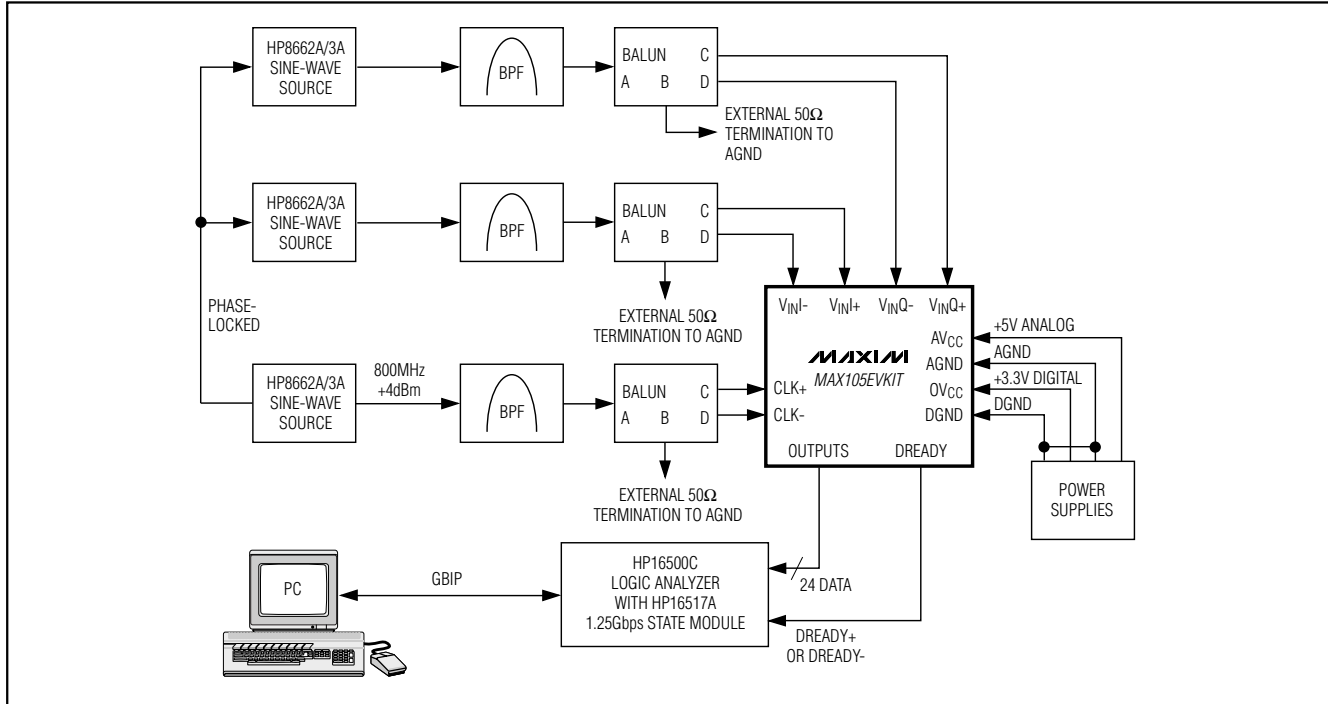
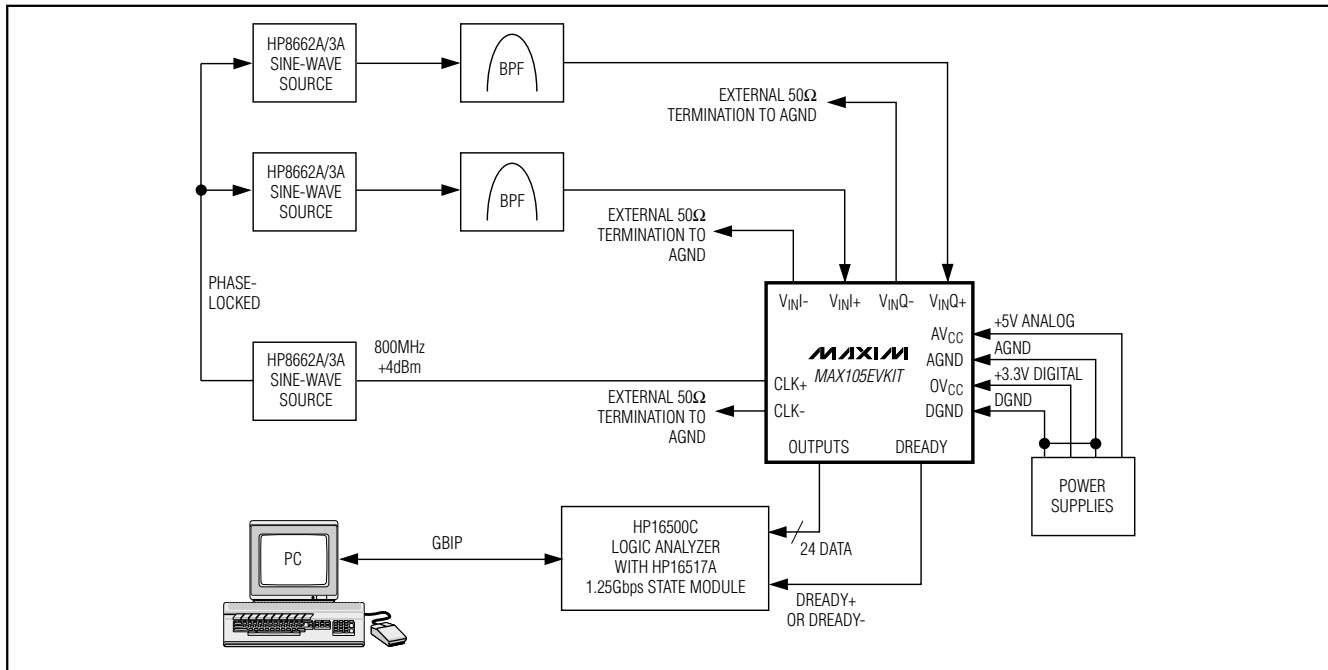

Figure 1. Typical Evaluation Setup with Differential Analog Inputs, Differential Clock Drive, and Single-Ended Data Capture
Figure 2. Typical Evaluation Setup with Single-Ended Analog Inputs, Single-Ended Clock Drive, and Single-Ended Data Capture
- 1) Connect a signal generator with low phase-jitter to the clock inputs CLK- and CLK+ through a balun (Figure 1). For a single-ended clock input (Figure 2), connect a 500mV (354mVRMS, +4dBm) amplitude from the signal generator to the CLK+ input and terminate the unused CLK- input with a 50 Ω termination resistor to AGND.
- 2) For differential operation, connect a ± 380 mV 270mVRMS (approximately -0.5dB FS) sine-wave test signal to connector A of the balun. Terminate connector B of the balun with a 50 Ω terminator. Attach connector C of the balun to the analog input VINI+ (VINQ+). Attach connector D of the balun to the analog input VINI- (Figure 1). For single-ended operation, apply the test signal to either VINI+ (VINQ+) or VINI- (VINQ-) and terminate the unused input with a 50 Ω resistor to AGND (Figure 2). For best results, use a narrow bandpass filter designed for the frequency of interest to reduce the harmonic distortion of the signal generator.